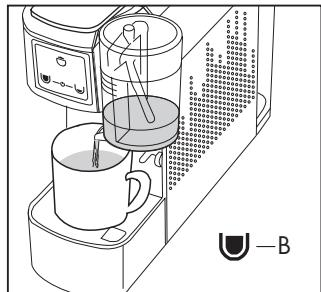

Fig. 23
- Press the button (B)  ; the machine will dispense foamed milk. **(Fig. 23)**